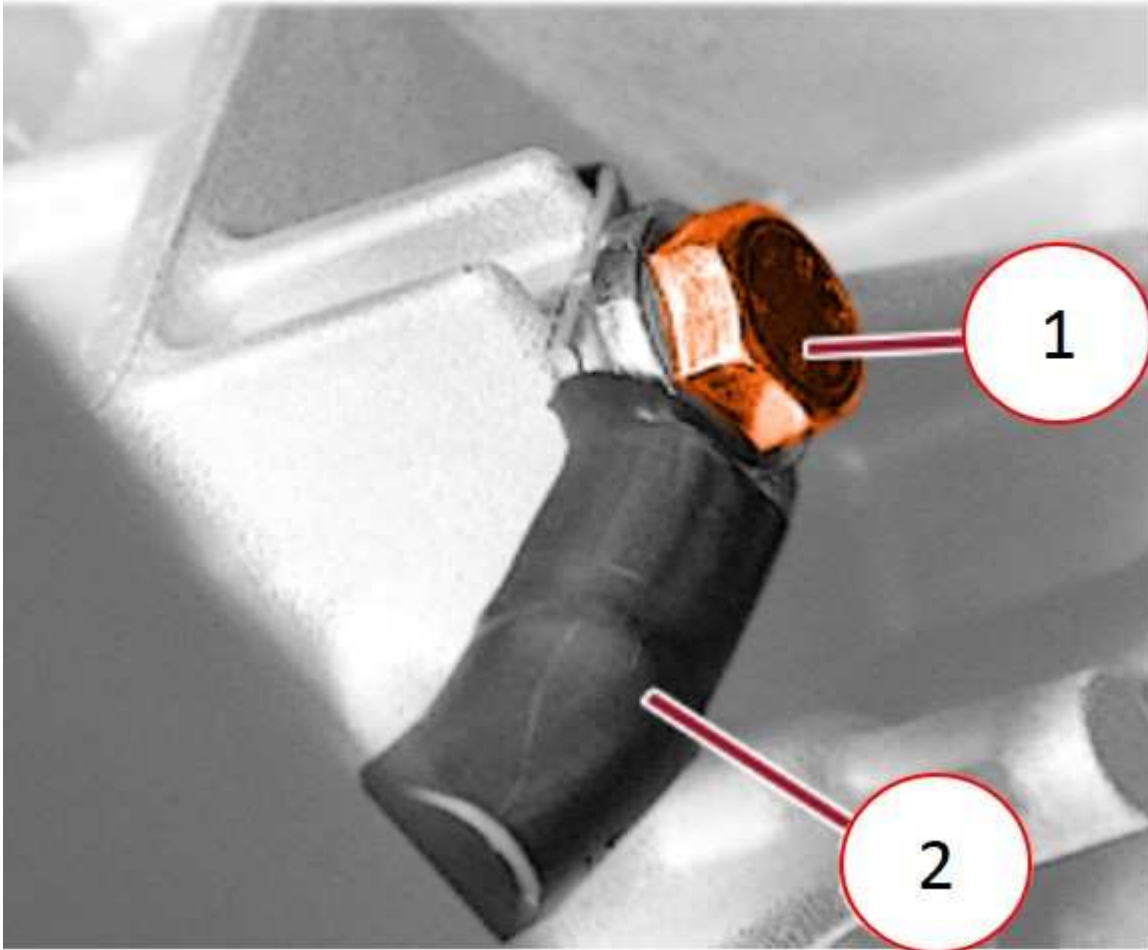

Fig. 1
3. Tighten the bolt for the negative battery cable at the gearbox (Fig. 1) . Tighten to 22 N·m (16 ft. lbs or 194 in. lbs).